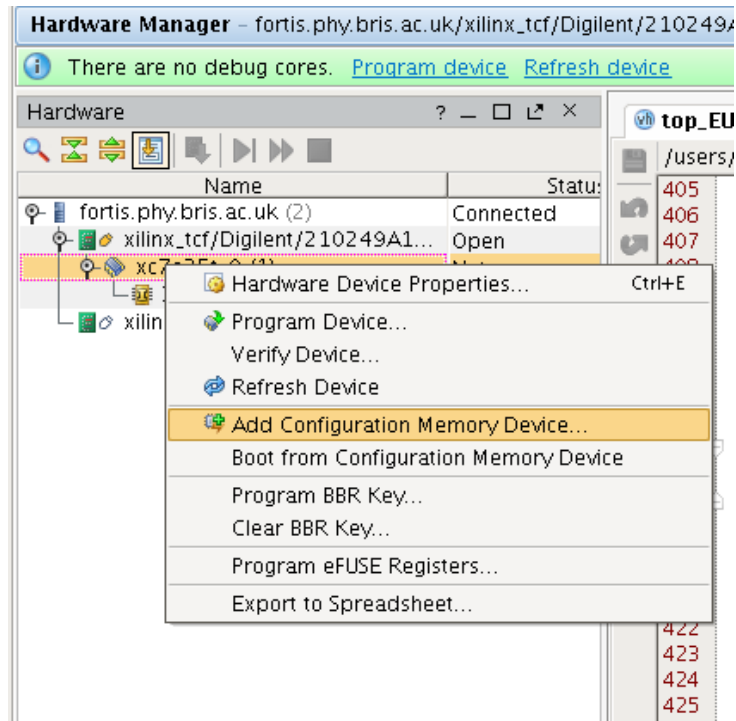
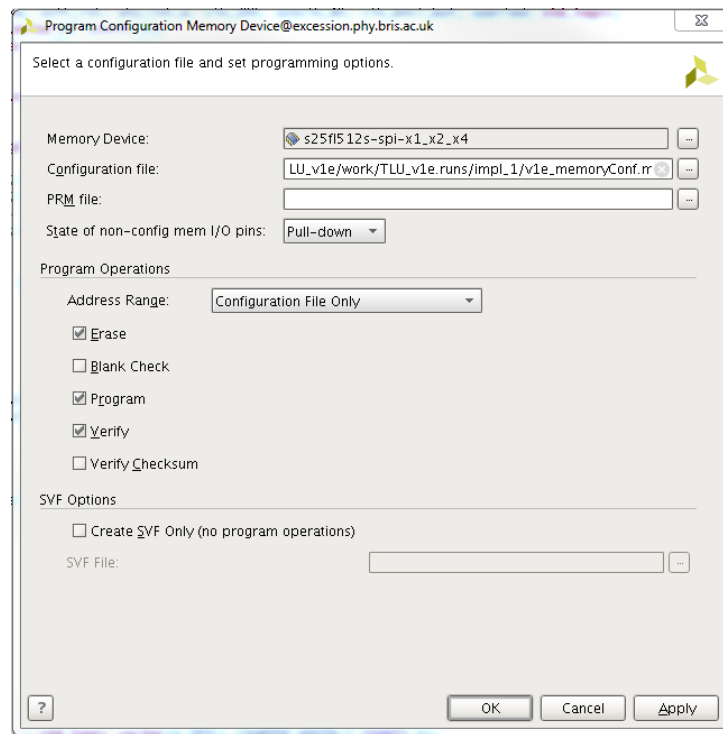

Figure 1.4: Program interface.
Figure 1.5: EEPROM interface. The options shown in the picture are suitable to configure the device correctly.
4. Right click on the FPGA (typically xc7...) and select Program device (see figure 1.4)
The procedure to write a permanent program in the EEPROM is very similar to the one followed to write a bit stream file, with the exception that the user should select `Add configuration memory device` in the options, as shown in figure 1.4. This will open a new window, shown in figure 1.5, from which it is possible to indicate the file to use (with extension `.mcr`). Make sure that the options are set as shown in figure 1.5.